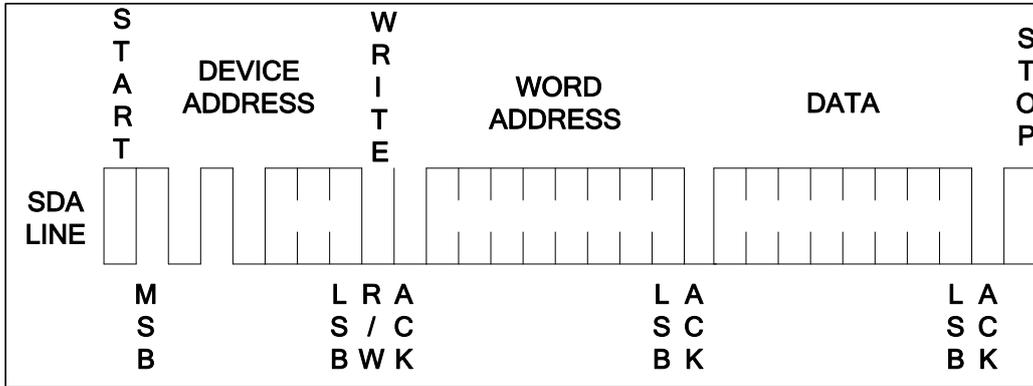

Figure 6. Byte Write
**BYTE WRITE:** A write operation requires an 8-bit data word address following the device address word and acknowledgment. Upon receipt of this address, the EEPROM will again respond with a "0" and then clock in the first 8-bit data word. Following receipt of the 8-bit data word, the EEPROM will output a "0" and the addressing device, such as a microcontroller, must terminate the write sequence with a stop condition. At this time the EEPROM enters an internally timed write cycle, tWR, to the nonvolatile memory. All inputs are disabled during this write cycle and the EEPROM will not respond until the write is complete (see **Figure 6**).